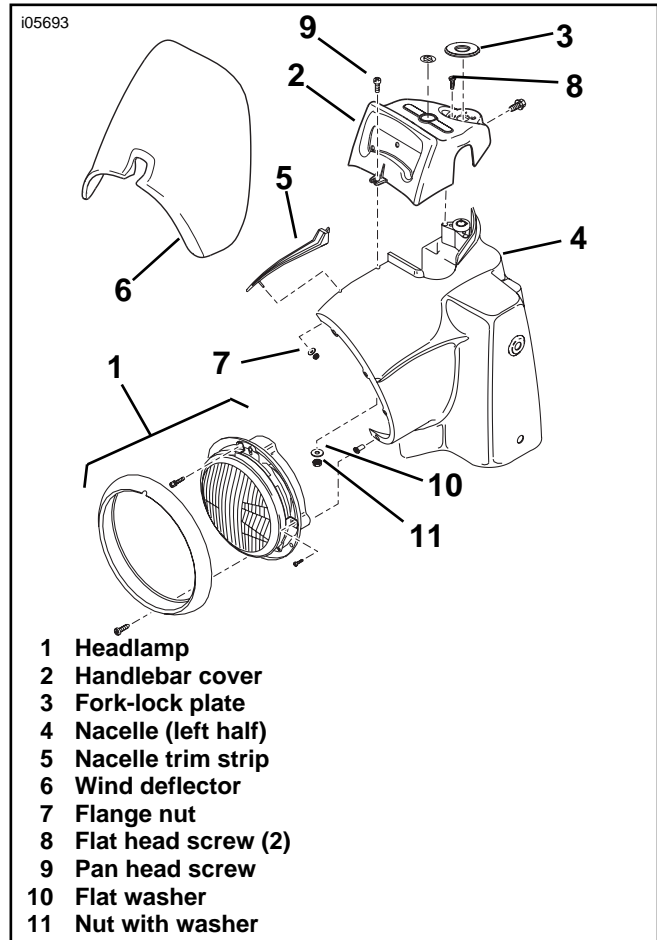

Figure 9. Nacelle, Headlamp, and Handlebar Cover (FLHRS Model)
4. See Figure 9. Carefully pry off the fork-lock label plate (3) from the handlebar cover (2). Remove the entire plastic plate; do not remove the adhesive label from the plate.
5. Remove and retain the two flat head Pozidrive screws (8) underneath the fork-lock label plate.
6. Loosen, but do not remove the pan head Pozidrive screw (9), nut (11) and flat washer (10) holding the front of the handlebar cover (2) and wind deflector (6) assembly.